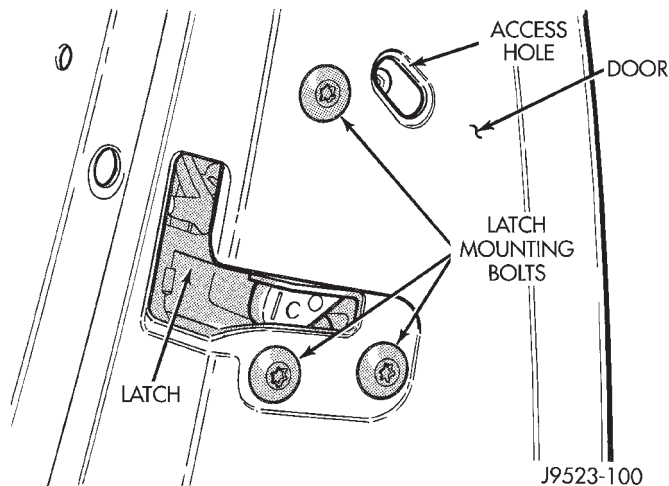

Fig. 110 Door Latch Adjustment
- (1) Locate access hole (Fig. 110).
- (2) Insert a 5/32-inch hex-wrench through hole and into adjustment screw. Loosen screw.
- (3) Operate outside handle button several times to release any restriction because of mis-alignment.
- (4) Tighten adjustment screw to 3 N·m (30 in-lbs) torque.
- (5) Test handle button and lock cylinder for proper operation.